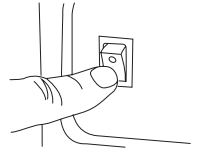

Fig. 9
- Before stopping the engine, switch off all the electrical loads and turn the generator ON/OFF switch to the OFF position (See Fig.9).